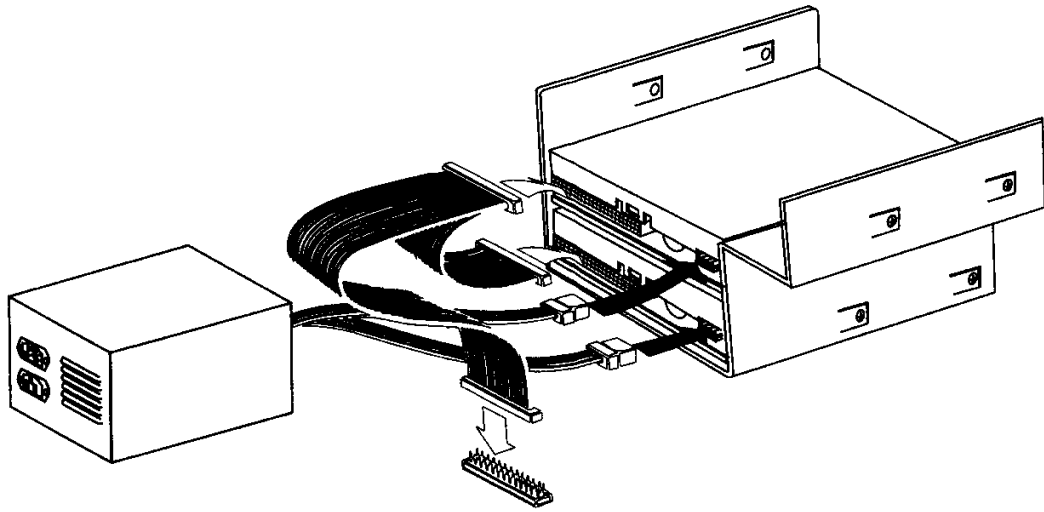

Figure 6-1. Front drive bay ribbon and power cable connections
5. Disconnect the power and ribbon cables from the existing drive(s) in the front area (see Figure 6-1). Note the orientation of the connectors before you remove them so that you can replace them properly when you are done.